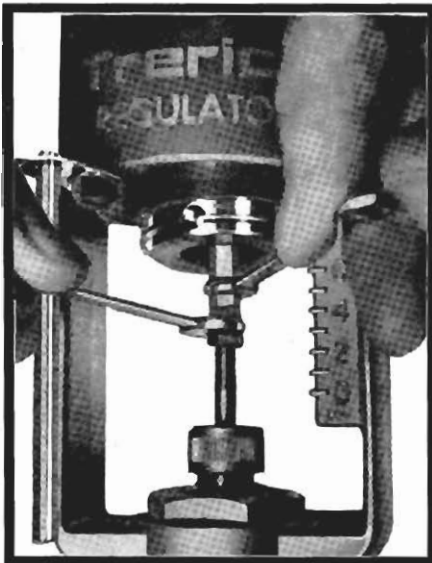

Figure 3
First allow the bulb to cool and turn the adjusting screw up to figure 8 on the adjustment scale. Now loosen the two stem locknuts (part number 2012) and remove the valve bonnet nut holding the yoke to the valve with a 1-1/2" end wrench. Turn the valve and stem to unscrew the stem and remove the valve from the yoke. See Figures 3, 4, and 5. If necessary, the two stem locknuts may be locked together to provide a wrench grip for turning the valve stem out. Never grip the smoothly finished stem itself since any marring of this finish will impair valve function and reduce packing life.
1. Remove actuator from the valve assembly bonnet. This is done by removing the valve bonnet nut holding the yoke to the bonnet and unscrewing the valve stem from the regulator stem. Use the two stem locknuts as a wrench grip to turn the valve stem. If the nuts should turn on the stem, lock them more tightly together so that the stem will turn. Never grip the polished stem itself since marring of this finish will result in a stem that is impossible to repack and seal properly. The 5/16" hexagon actuator stem must be held from turning while loosening the valve stem. If the valve is in the closed position, hold the valve stem stationary and unscrew the 5/16" hexagon actuator stem to avoid galling of valve trim by turning of the plug against the seat. See figures 3, 4 and 5.